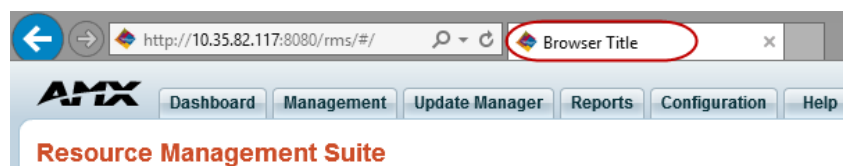

FIG. 344 Browser Title
3. Click the **Back to Dashboard** button to refresh the application window to display the new Browser Title - displayed in the browser tab containing the RMS application window (FIG. 344):
Click **Restore to Default** to remove changes and restore the default logo image (default = *AMX Logo*, see FIG. 344 on page 210).